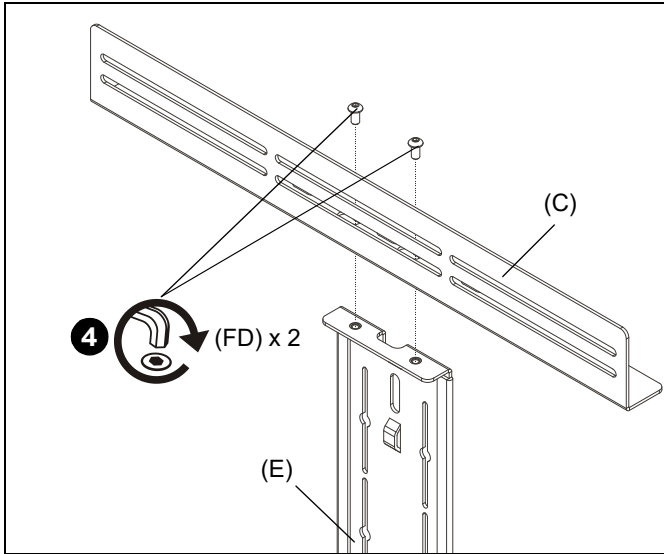

Figure 5
- Use two 1/4-20 x 1/2" button head cap screws (FD) to secure soundbar bracket (C) to micro height-adjustment bracket (E). (See Figure 5)